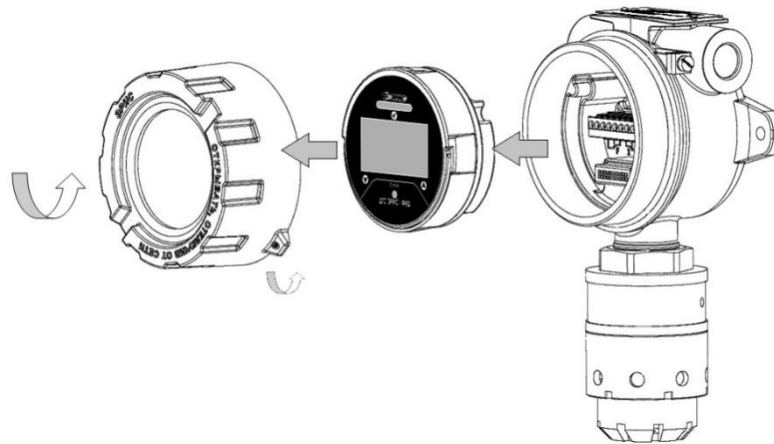

Figure 24 - Gas detector disassembling diagram
1) Screw off the lock screw on the upper cover of the gas detector cover (Figure 24). Screw off the cover. Remove the electronic module from connectors by pulling horizontally the semicircular handle "acr" (do not rotate).